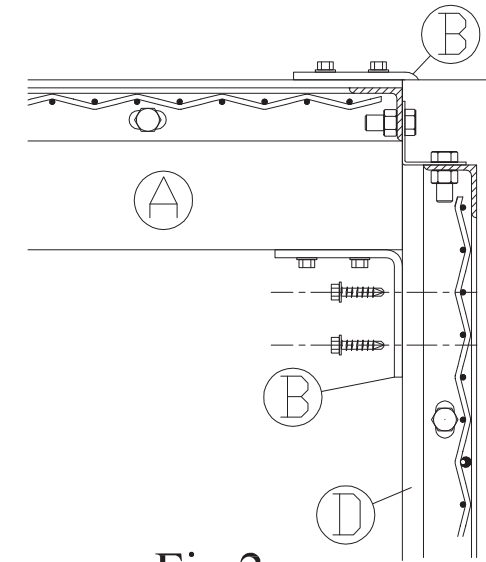

Fig.2
5. Lift ceiling tube (A) above the partition wall post (D) and lower into place so that the top bracket fits inside of wall post (D) Per Fig.2.